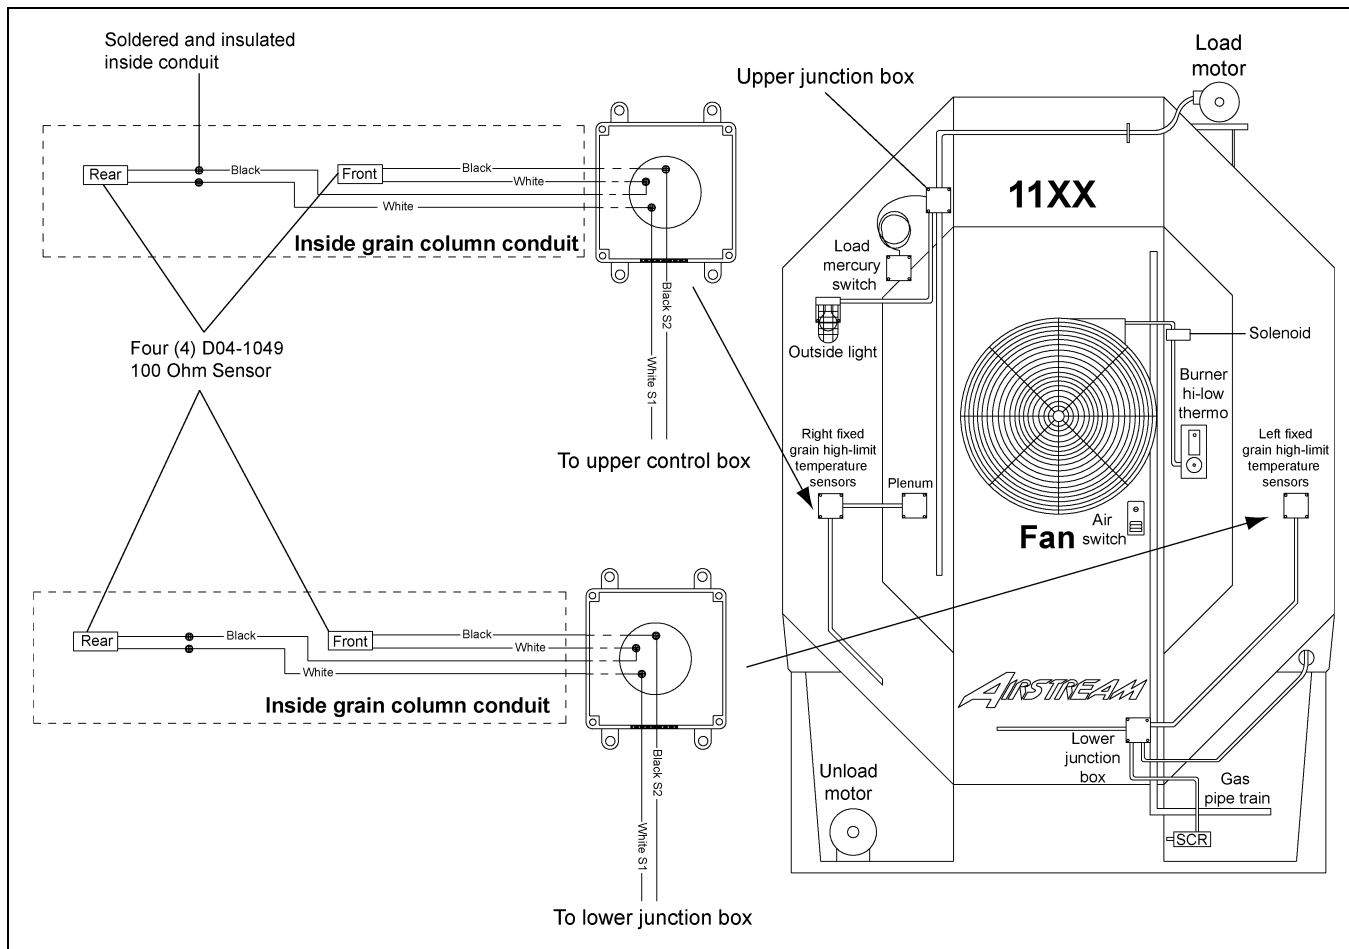

Figure 2J The Four (4) Grain Temperature Sensor Locations on a Portable Dryer
Connect the four (4) wires in the grain high-limit boxes by connecting a white and a black wire from each of the sensors and crimp them together using the supplied crimp nuts. You will then have a white and a black remaining to reconnect to the white and black wire running into the conduit. Use two (2) crimp nuts for these connections as well. See Figure 2J for details.